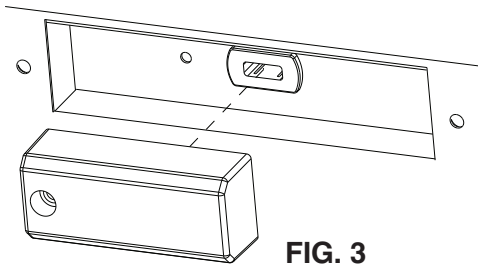

FIG. 3
3. Plug the sensor into the USB-C receptacle via the USB connection (see **Fig. 3**).